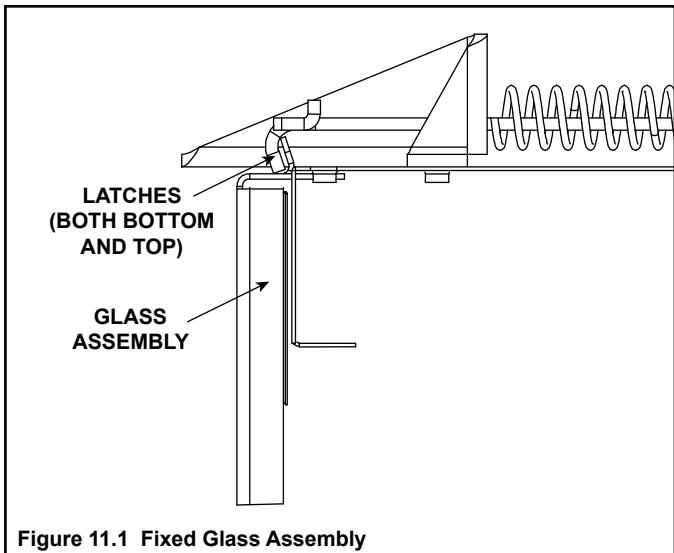

Figure 11.1 Fixed Glass Assembly
- Pull the four glass assembly latches out of the groove on the glass frame. Remove glass assembly from the appliance. See Figure 11.1.
- Replace the glass assembly on the appliance. Pull out and latch the four glass assembly latches into the groove on the glass frame. See Figure 11.1.